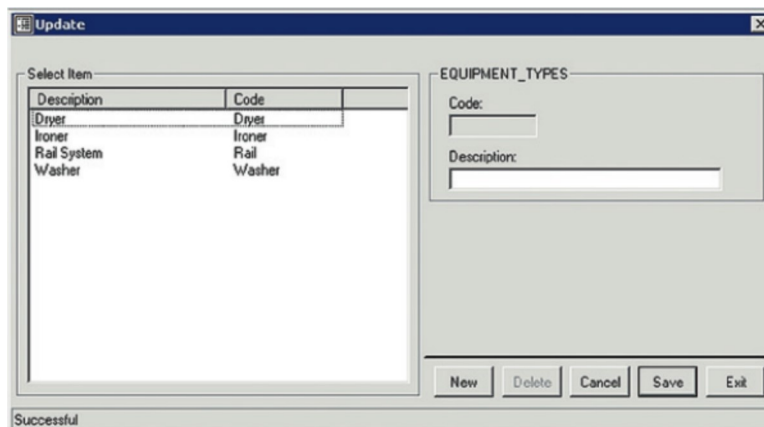

Figure 25. Equipment Types dialog.
2. Click **New** on the *Equipment Types* dialog (see Figure 25).